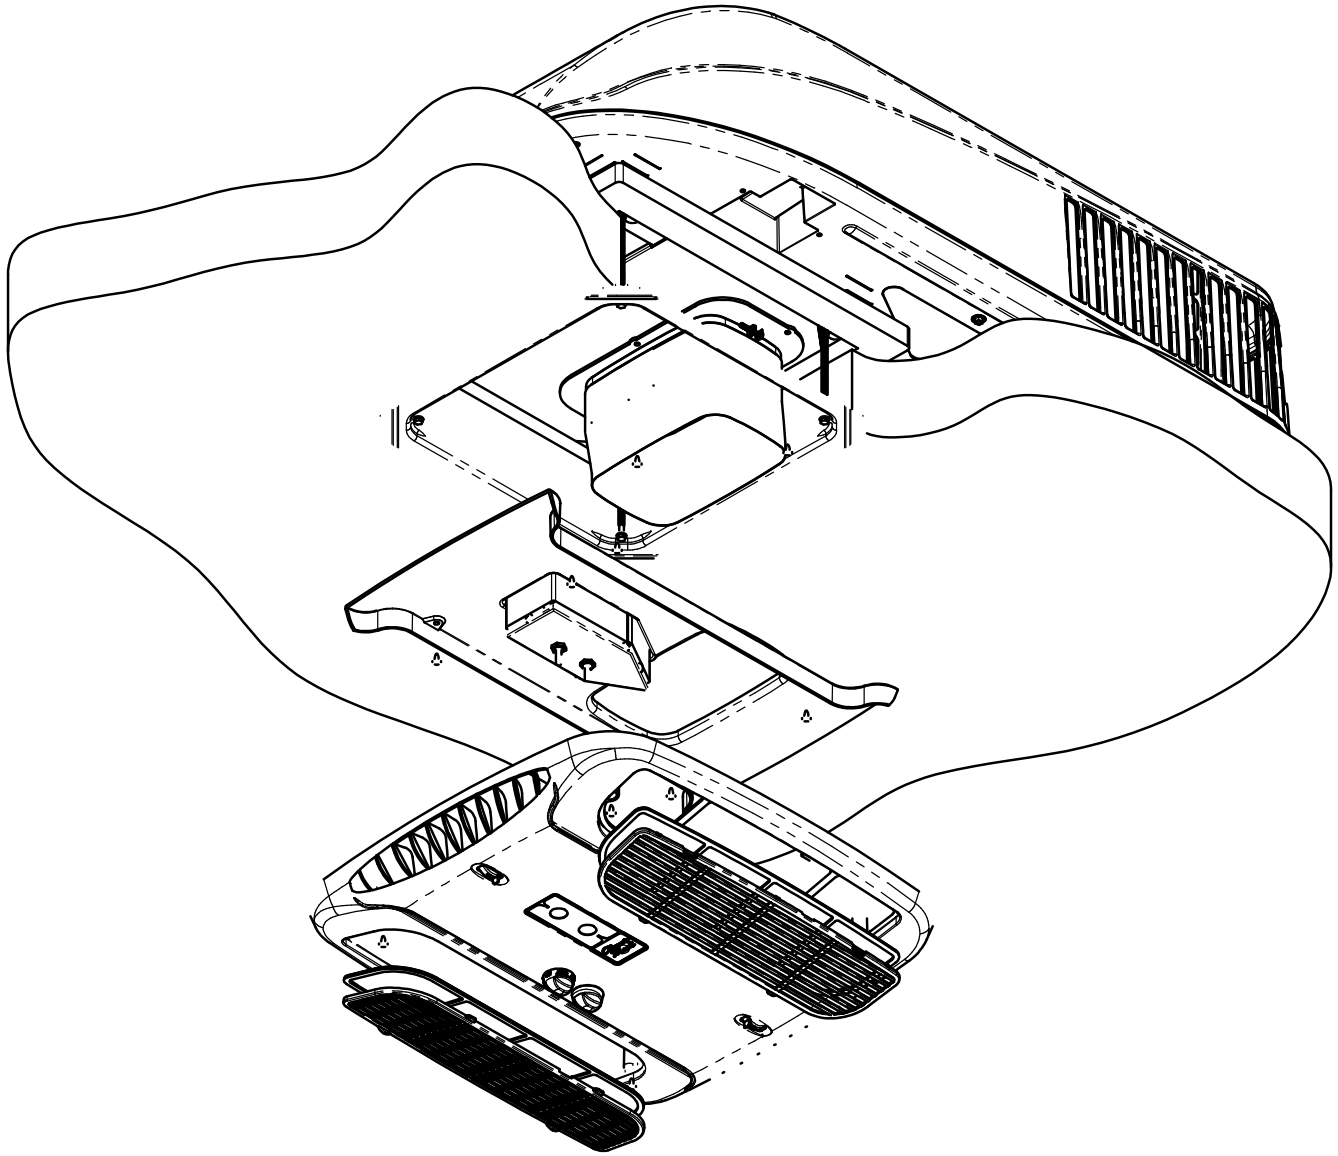

**FIGURE 12**
- B. Fold and break off the 3 tabs around the inner opening of the duct collar then fasten the duct collar to the air conditioner basepan with 3 provided screws (See Figure 12).
- H. Raise the ceiling assembly chute to the unit mounting frame and secure the chute with 4 provided screws (See Figure 12).
- K. Raise the ceiling shroud and while insuring it meshes with the chute, secure to mounting frame with 4 provided screws (See Figure 12).